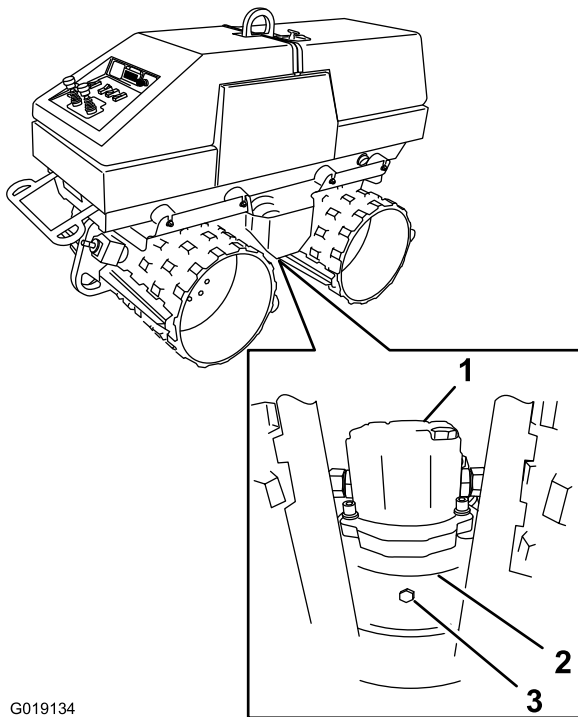

Figure 78
1. Locate the hydraulic motor for the eccentric at the right-lower exterior of the machine (Figure 78).
2. Locate the eccentric-motor cap on which hydraulic motor mounts (Figure 78).
4. Remove the drain plug from the bottom of the eccentric-motor cap and allow the oil to drain (Figure 78).
6. Install the drain plug into the drain hole of the eccentric-motor cap (Figure 78).